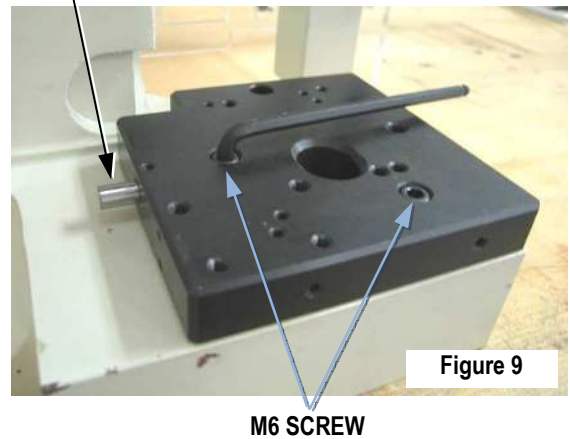

Figure 9
4. Install the JST\* bolster plate on the press frame. The side of the bolster plate with the shaft goes towards the left side of the press. Use a 5mm hex wrench to tighten the (2) M6 screws securely. See Figure 9.